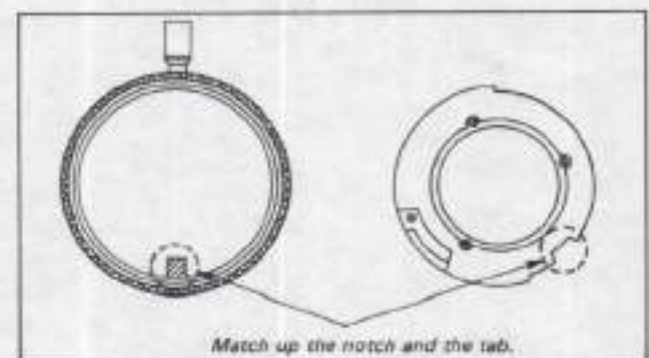

Fig. 2-42
- 1) Mount the zoom ring unit. (Fig. 2-42)